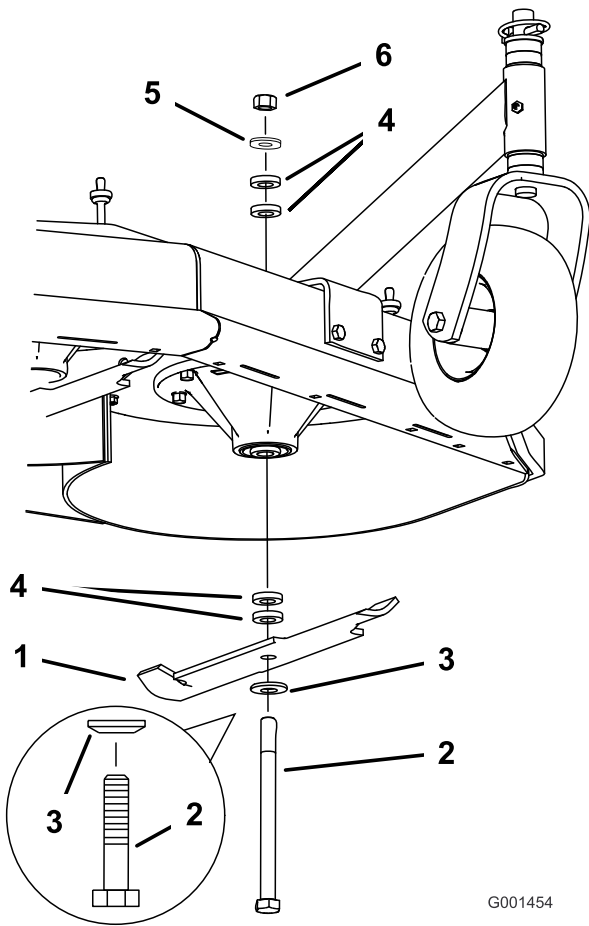

Figure 54
2. Remove the nut, blade bolt, curved washer, blade, spacers, and thin washer from the spindle (Figure 54).
- Install the curved washer and then the blade onto the bolt. Select the proper number of spacer(s) for the height of cut, and slide the bolt into the spindle (Figure 54).
- Install the remaining spacer(s) and secure them with a thin washer and a nut (Figure 54).